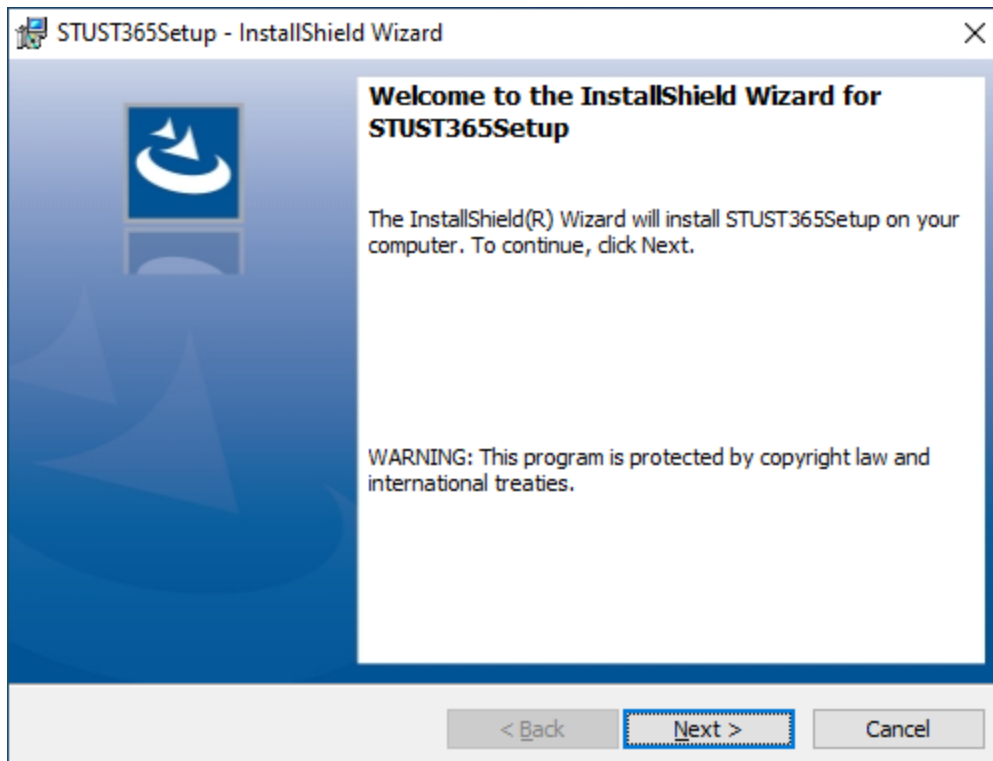

Figure 2
**Double-click this file.** Doing this starts the process of installing the Spectrum Techniques Ultra ST365 application software on your computer. You will see a new window appear that looks like Figure 2: